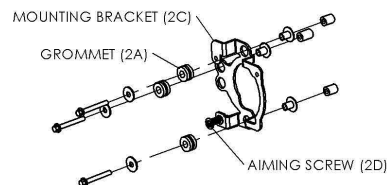

FIG. 3
7. INSTALL THE RIGHT BRACKET (3A) ON THE FOG LAMP (3B) AS SHOWN IN FIGURE 3. DO THE SAME FOR THE LEFT SIDE (3C) & (3D). REFER TO FIGURE 3.